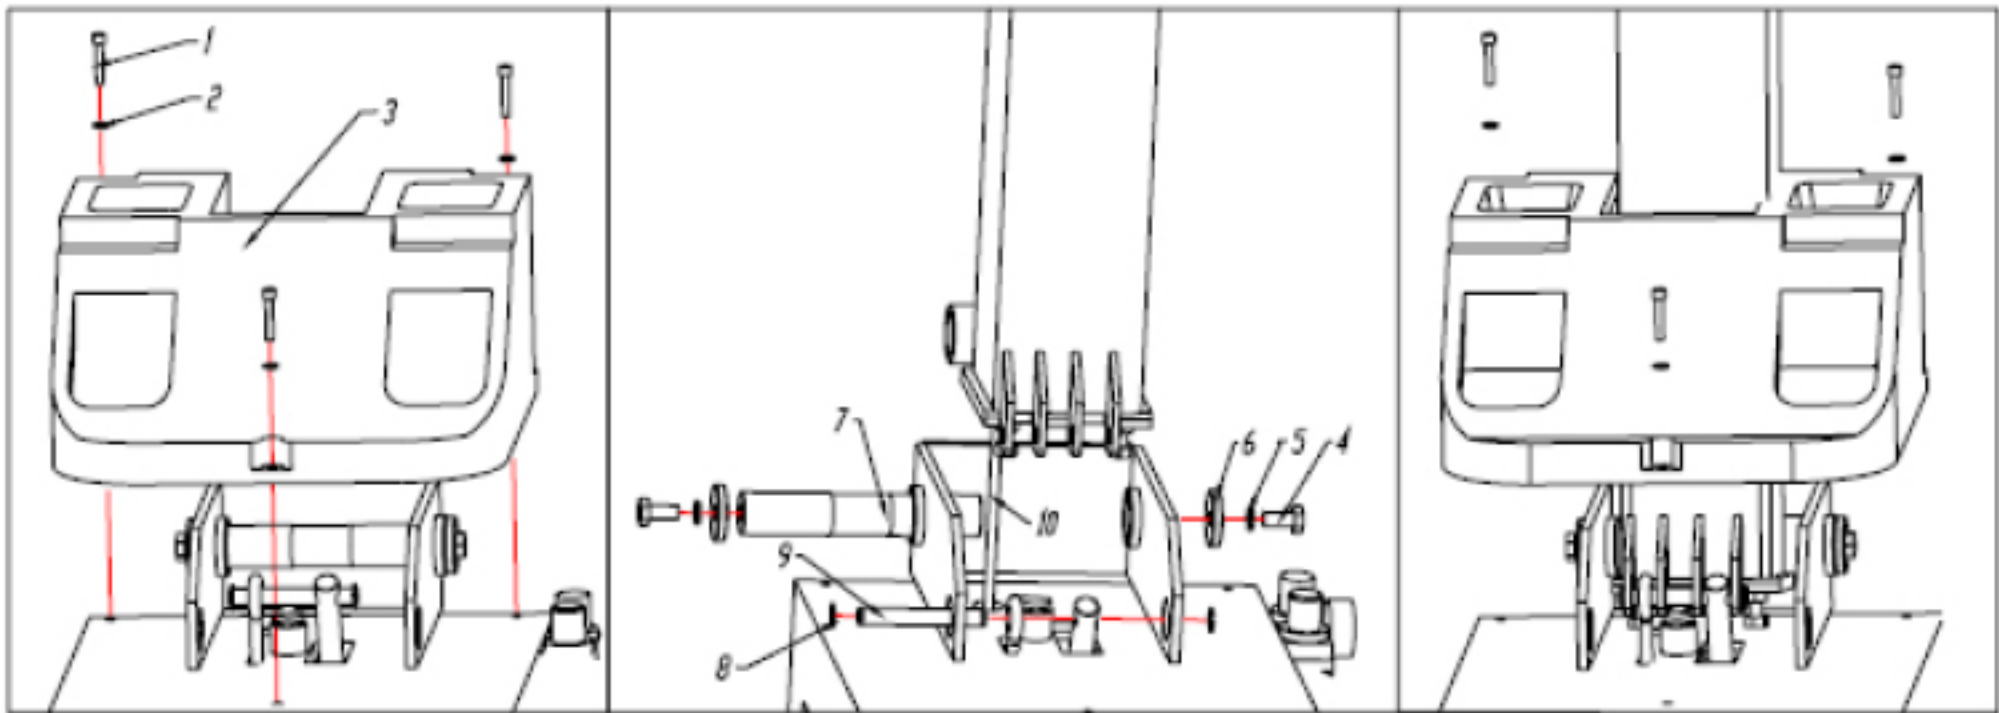

Figure 2-2
2.2 Vertical Arm Installation (figure 2-2)